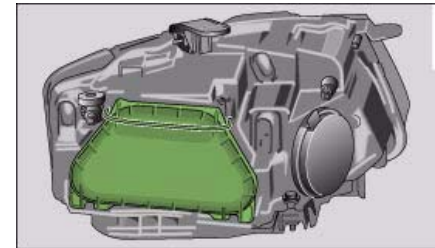

Fig. 264 Headlight unit: Cover
- Take off the cover ⇒ *page 280*, fig. 264 ⇒ ⚠ in "Changing bulbs" on *page 276*.
- Take off the cover ⇒ *page 280*, fig. 264 ⇒ *page 280* ⇒  in "Changing bulbs" on *page 276*.